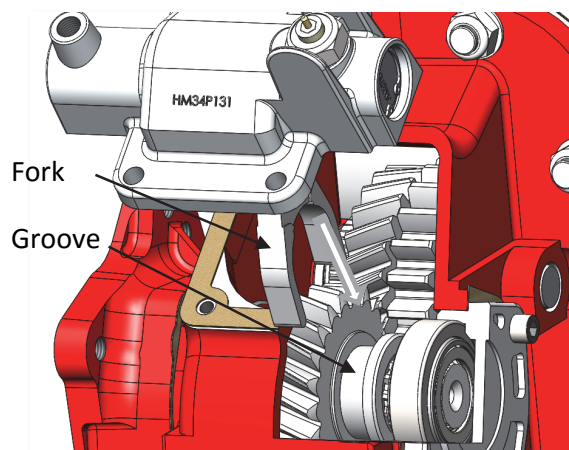

Fig. 10
3. Make sure the fork slides into the output gear groove (Fig. 10).